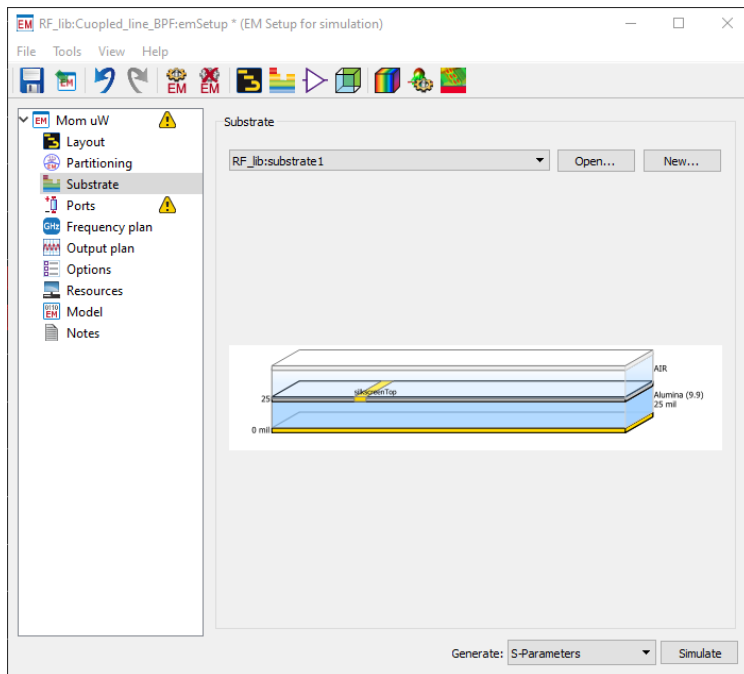

Figure 11. Substrate Properties Window
- a. The EM setup window is as shown in Figure 11. You can note the '!' indicating that there is something missing from the setup. Hovering the mouse over the warning will show that there is missing information in the substrate because we have not defined the substrate yet.